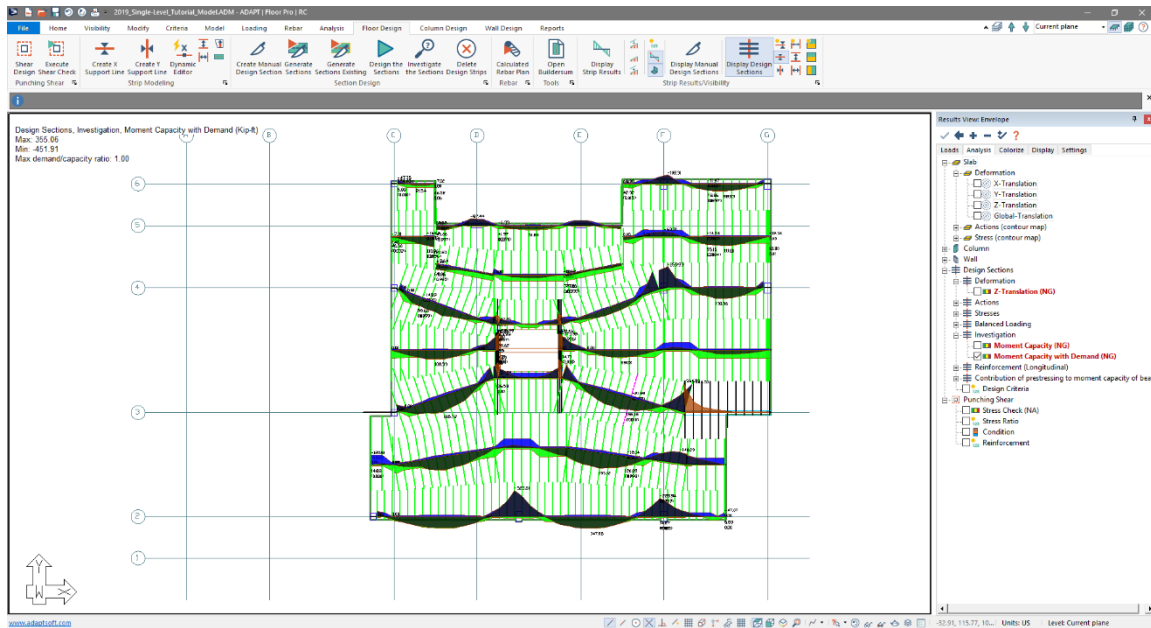

Figure 7-20
- In the *Results Browser* go to the *Analysis* tab and check the box next to *Design Sections* → *Investigation* → *Moment Capacity with Demand* by clicking on it. The user should now see the moment capacity with demand curve along the support line as shown in **FIGURE 7-20**.